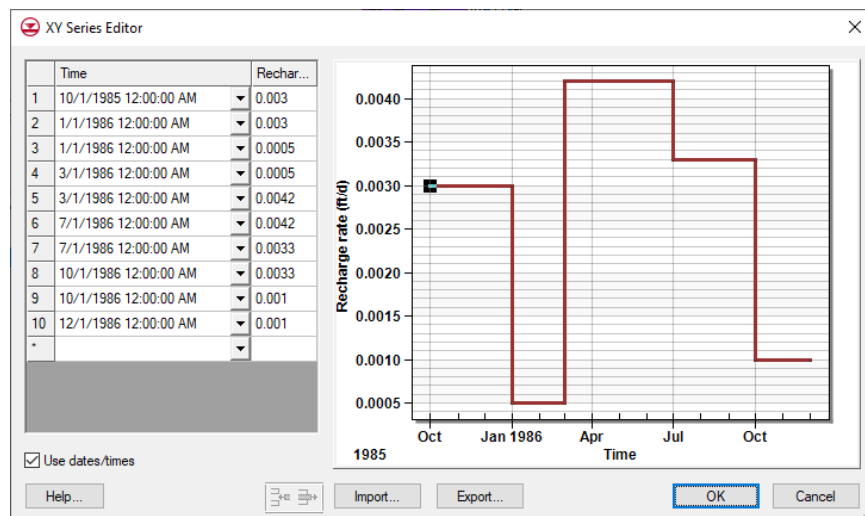

Figure 6 XY Series Editor showing recharge rate for zone 3
11. Click the  button in the *Recharge rate (ft/d)* column to open the *XY Series Editor* dialog. A time series curve of the imported data will appear which should match Figure 6.